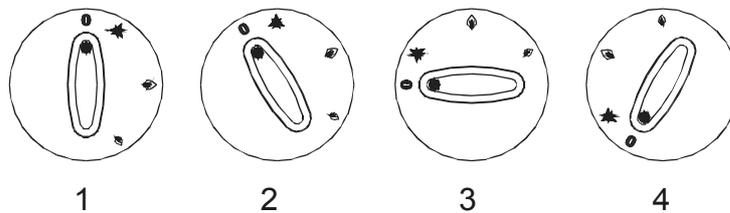

Fig. 2
Press the knob and turn it to the spark symbol; keep the knob pressed and simultaneously press the ignition button (pos. 2, fig. 2).
The various control knob settings are shown in figure 2.
- To light the pilot flame press the control knob and turn it counterclockwise to the "pilot flame ignition" position (pos. 2 in figure 2 above);
To turn on the main burner press the control knob lightly and turn it to the position corresponding to the required temperature (pos. 3 and 4 in figure 2 in "Operating controls"). Water temperature will be kept at the set value by means of the thermostat which automatically turns the main burner on and off.
To turn off the main burner turn the control knob clockwise to pos. 2 (fig. 2); only the pilot flame remains lit. Press the control knob lightly and turn it to pos. 1 to turn off the pilot flame.